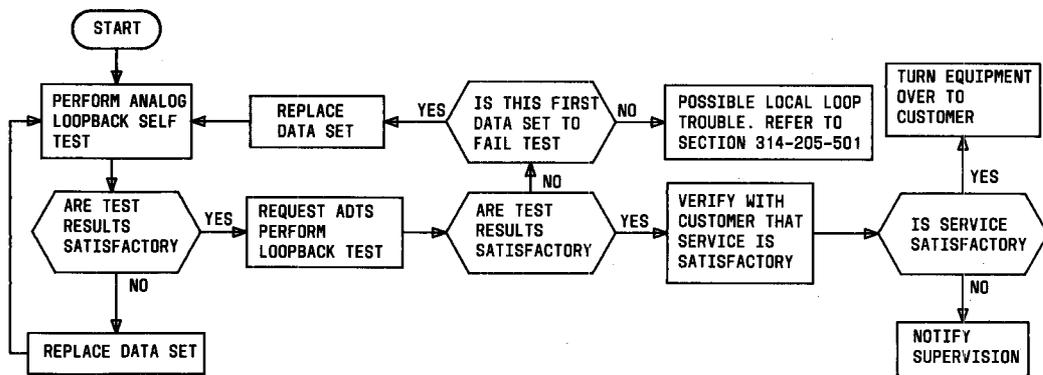

Fig. 1—Installation Test Sequence
2.01 This part provides the sequence in which tests are to be performed following installation of the data set. This test sequence (Fig. 1)